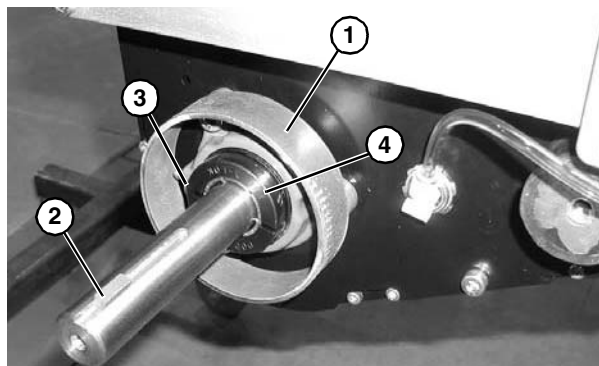

Figure 87
3. Remove spacer ring (**Figure 87, item 1**) and key (**Figure 87, item 2**). Loosen clamp screw (**Figure 87, item 3**) and remove bearing collar (**Figure 87, item 4**).
7. Reinstall bearing collar (**Figure 87, item 4**). Tighten clamp screw (**Figure 87, item 3**) to 95 in-lbs (11 N-m).
8. Reinstall key (**Figure 87, item 2**).